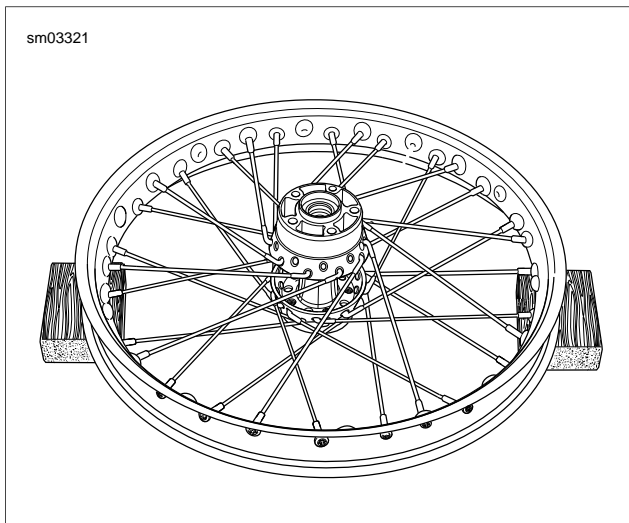

Figure 2-50. Lower Row Spokes Completed
- See Figure 2-50. Place the remaining nine lower row spokes, angled clockwise, into hub and rim.